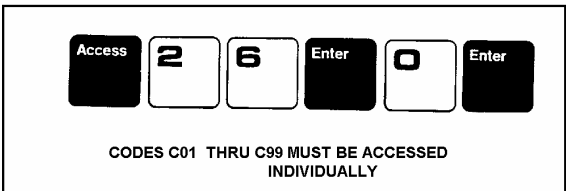

Figure 3-5 Procedure for Accessing Parameter #26 (Keyboard Tare) and Then Disabling the Function (Inhibit Keyboard Tare).
The M5000 setup and calibration parameters can be changed when in the setup and calibration mode. Table 3-2 shows all of the scale parameters along with access codes. Figure 3-5 depicts how to individually access parameters 1 thru 99 in the event that they must be changed.
- A. **C00** When switch 1-1 is closed on the DPU board to enter the setup and calibration mode, C00 (parameter - Save setup values) will always be displayed. To select the scale capacity parameter, press access, followed by entering (1) thru the numeric keyboard, then press enter. Refer to Fig. 3-5. The current capacity value will be displayed. If this value is acceptable, press enter to retain it. You can now select a new parameter to set..
- D. Select the value 20 via the numeric keyboard and depress enter. The new division size is now selected and retained in memory. The bottom display now returns to C00. Access Code C03 per figure 3-5.
- J. C00 is the access code for the parameter, save setup values. At this time, if any other scale parameter is to be changed, it must be accessed individually per Figure 3.5. After all parameters are set, press access, and then press enter twice. Before going to step K the bottom display should read C00, while the top should be blank.